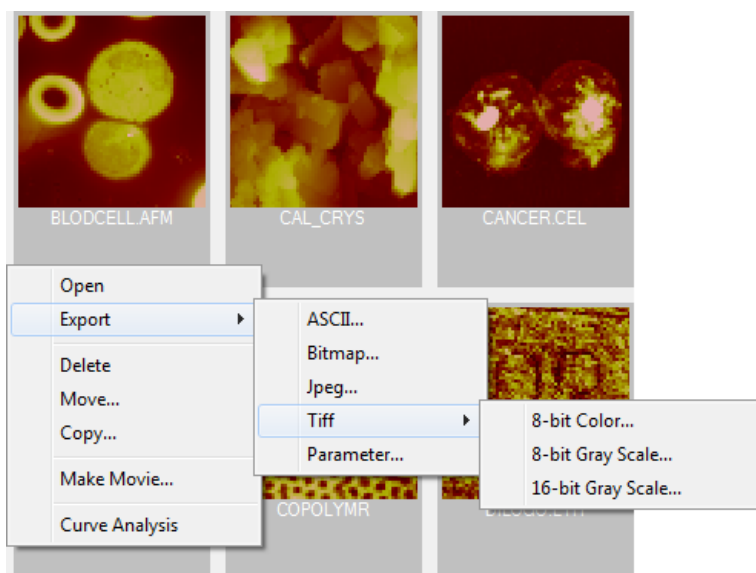

Figure 4.3a: The ASCII Export Command
2. Select a directory, then an image file within it, from the file browse window at the right of the NanoScope Analysis main window. Right-click in the thumbnail image to open the menu shown in Figure 4.3a.